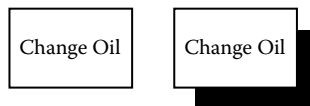

Figure 5.4 Symbols for activity.
1. Use a “box” to show the activities within a workflow or process. Shade the box if you have a separate map or flowchart of this activity (Figure 5.4).